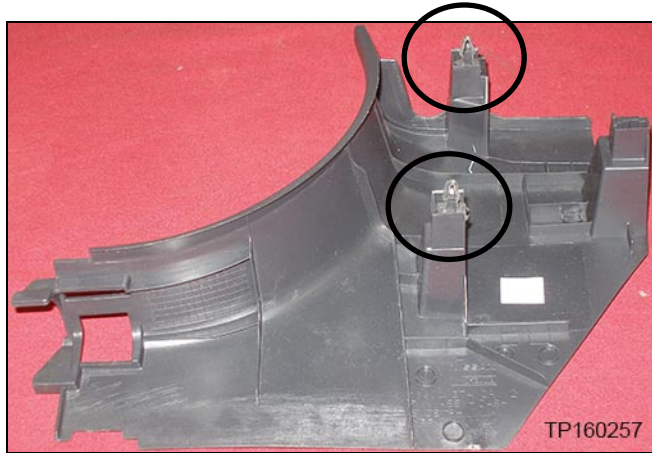

Figure 1
4. Using a suitable tool, release metal clips (see Figure 1), then remove dash side finisher.